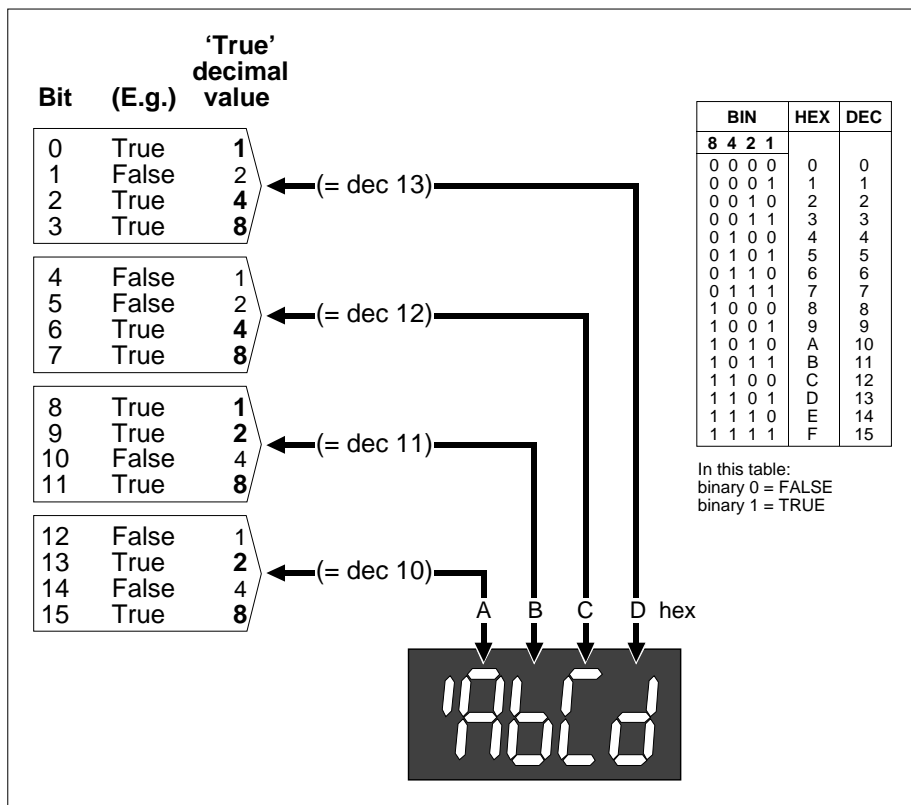

Figure 3-3 Hexadecimal representation of 16-bit 'word' parameter — example 'ABCD'
- **Hexadecimal words.** 16-bit parameters — 'words' — such as BM, SC, etc., are displayed as four hexadecimal digits preceded by a " symbol, e.g. '400F'. Each hex digit represents the equivalent hex value of a group of four bits. The low-bit group (bits 0 to 3) is represented by the rightmost digit, and the high-bit group (bits 12 to 15) by the leftmost digit. Figure 3-3 explains this representation and shows an example representation of a set of bits as hex 'AbCd'.